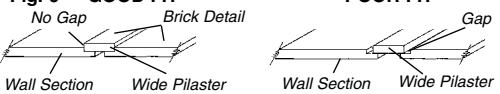
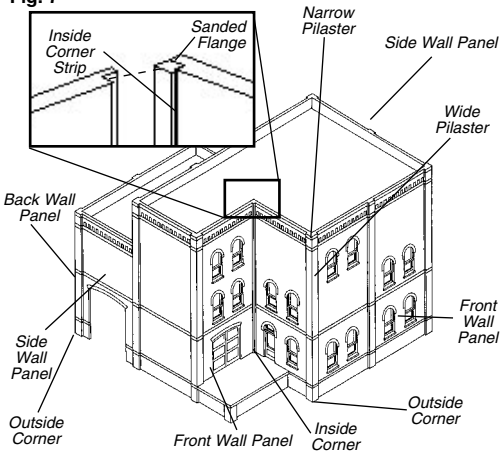
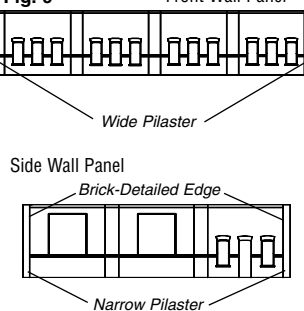

Fig. 7
Fig. 8
Fig. 10
4. Actual corners will be formed later during Building Assembly. However, prepare for outside corners now. Note the difference between outside corners and inside corners (Fig. 7). Do not attach pilasters to wall panels where they will be part of inside corner. A wide and a narrow pilaster meet at outside corners so they will appear equal in width on both sides (Fig. 8). Ends of front
5. If your building has an inside corner, use inside corner strips provided in Designer Bulk Packs (or in Roof & Trim Kit). Or use .080" x .080" styrene plastic strips. Cut just enough off corner strips to remove rounded ends. Place corner strip on flange at end of wall panel where inside corner will occur. Extend corner strip very slightly beyond top of wall panel. Cut off other end of corner strip so it extends slightly past bottom of wall panel (Fig. 10). These protrusions will be sanded off later. Glue corner strip in place, making sure it is seated squarely on flange and flush along back face of wall section, as shown in Fig. 10. Repeat these steps on all wall panels that will be part of same larger wall. Do not attach corner strips to wall panels that will be part of adjacent wall at inside corner (Fig. 7 inset and Fig. 11). Let glue dry completely. On each wall panel, score flange flush along inside corner strip and snap with pliers along the score to remove extra flange (Fig. 10 and Fig. 11).
5. Where inside corner strips have been glued, sand flange back to an angle so it won't touch adjacent wall at corner (Fig. 7 inset and Fig. 11).